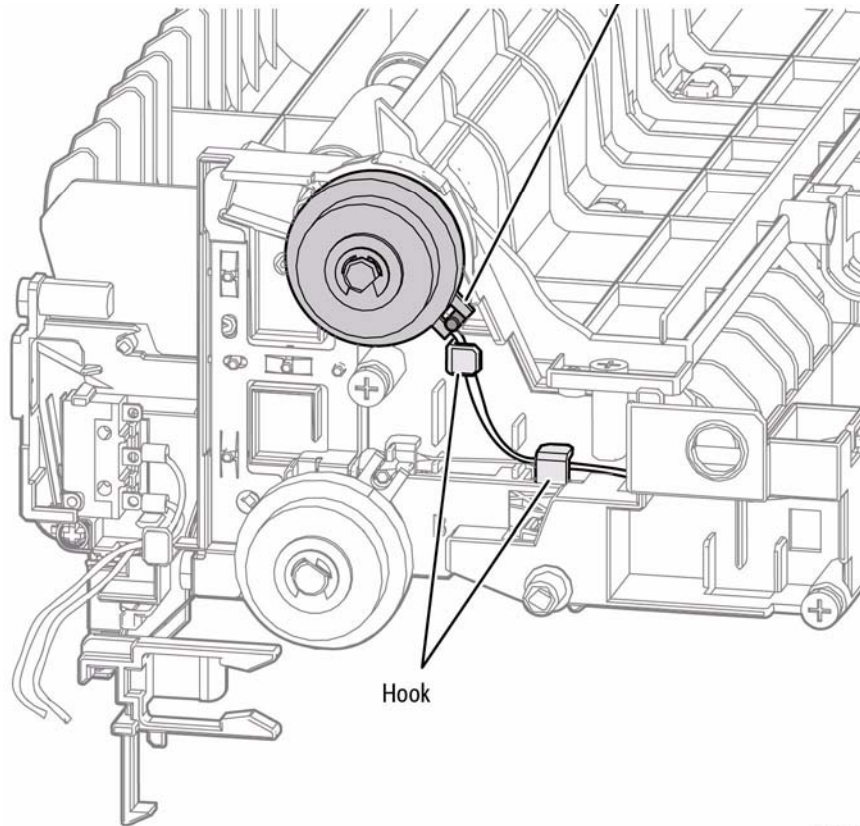

Figure 1 Remove the Registration Clutch
2. Refer to Figure 1 to locate and remove the E-ring that secures the clutch to the Transport Assembly.